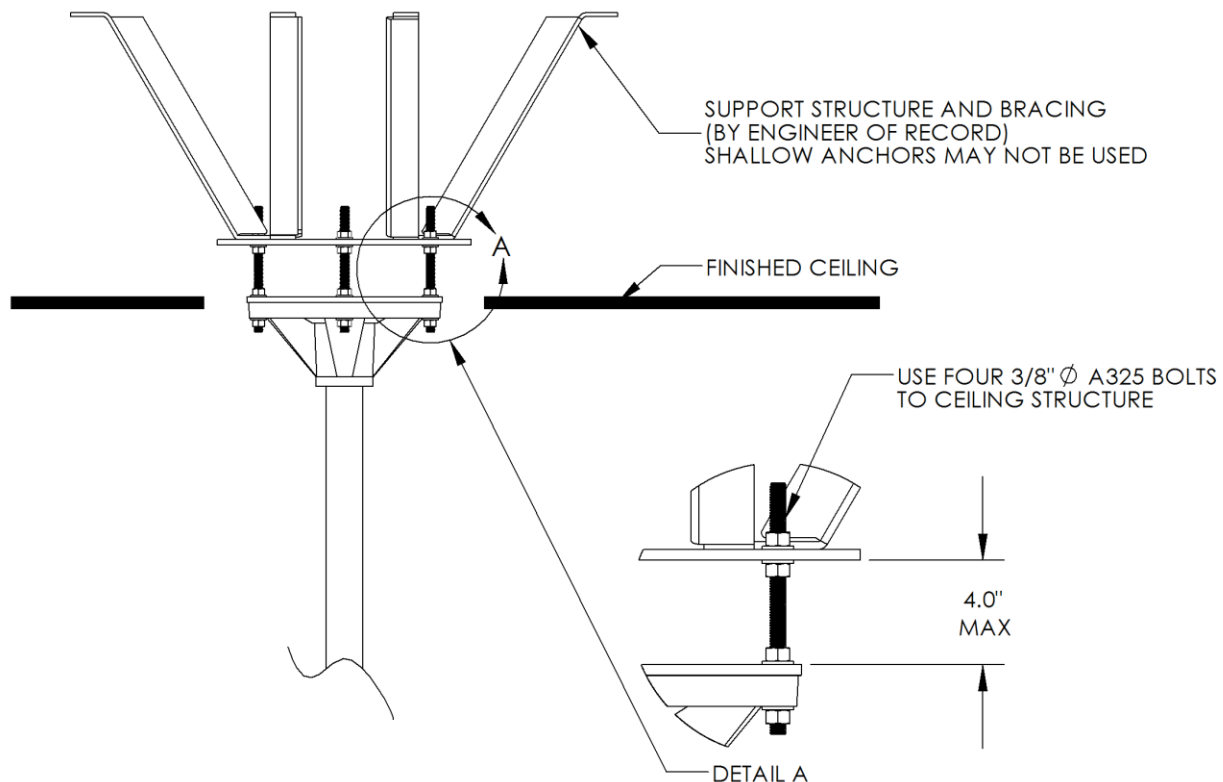

Figure 3: Recommended Ceiling Structure Construction
- Mount the Ceiling casting to the ceiling structure using four  $\frac{3}{8}$ " DIA A325 bolts with nuts and washers as shown in Figure 3: Recommended Ceiling Structure Construction.
**Note: Ceiling rod must be plumb. Adjust the nuts/washers in Figure 3 accordingly.**
Note: Ceiling rod must be plumb. Adjust the nuts/washers in Figure 3 accordingly.